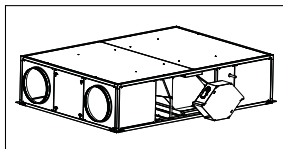

Fig. 2
3. Extract carefully the bypass (fig.2).